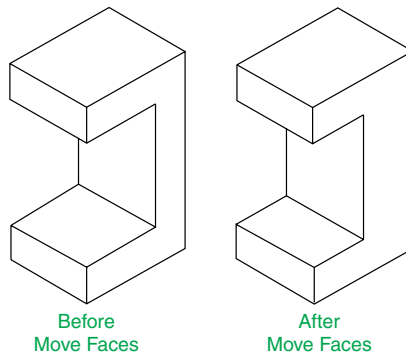

Fig. 18.9 Third example – **Move faces** tool
Third example – Move faces tool (Fig. 18.9)
1. Construct the 3D solid drawing shown in the left-hand drawing of Fig. 18.9 from three boxes which have been united using the **Union** tool.
And the *picked* face is moved – right-hand drawing of Fig. 18.9.